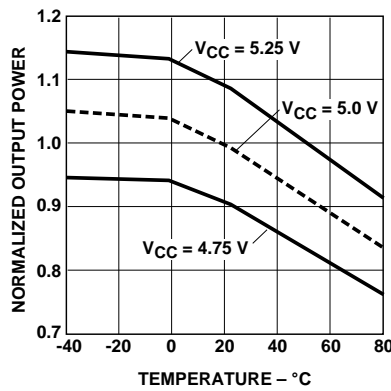

Figure 4. Typical normalized optical power vs. temperature (in recommended drive circuit).
- Minimum and maximum values for P_T over temperature are based on a fixed drive current. The recommended drive circuit has temperature compensation which reduces the variation in P_T over temperature; refer to Figures 4 and 6.